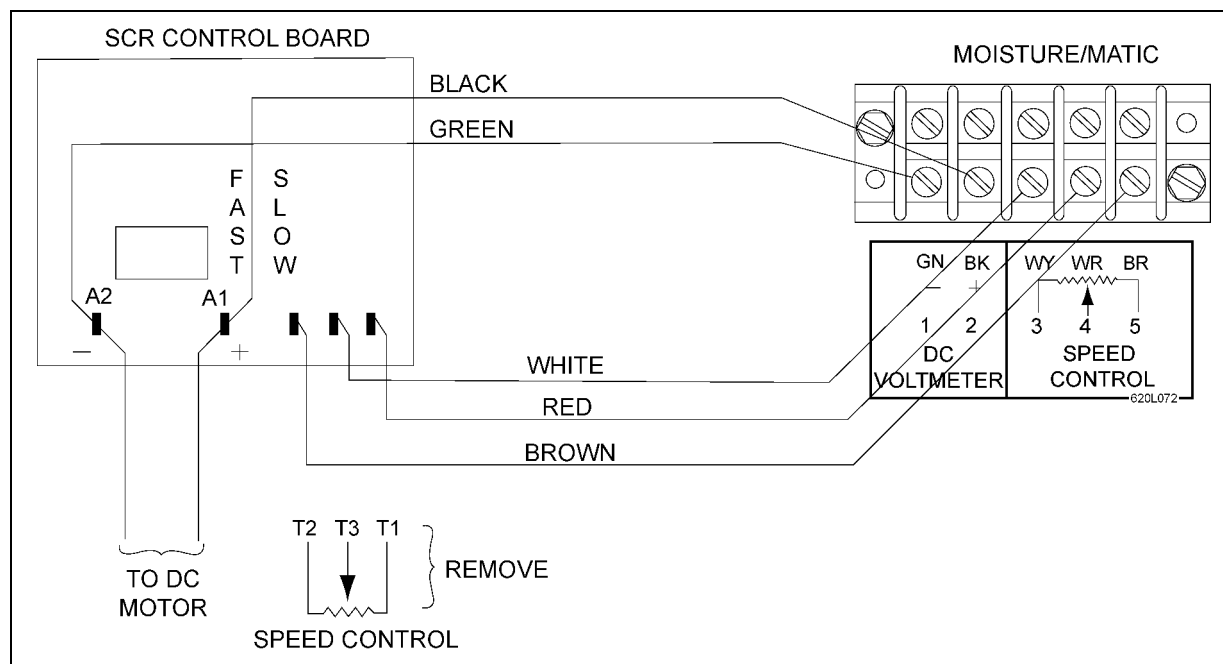

Figure 4P
Electrical Hook-Up *(See Figure 4P.)*
2. DC Voltmeter Hook-Up: Use the 15' piece of five (5) conductor cable provided for the hook-up wire. Use liquid-tite and proper fittings (not provided) to run between the Calc-U-Dri and the SCR controller. On the SCR control board locate the leads going to the DC motor.
- b. In the Moisture/Matic control box, locate the five (5) post terminal. This has "DC Voltmeter" written on it. The green wire should be placed on terminal 1 and the black on terminal 2.
3. Speed Control Hook-Up: Locate the three (3) leads on the SCR control board (in the dryer control box) that are attached to the speed control potentiometer. *(See Figure 4P.)*
- a. Mark down the wire color and terminal as you remove the three (3) leads. This can be used for a test if problems should appear.
- b. Determine the center lead from the speed control potentiometer. (This may not be the center lead on the SCR board.) Remove this wire from the SCR board and replace it with the red wire in the five (5) conductor cable from the Moisture/Matic.